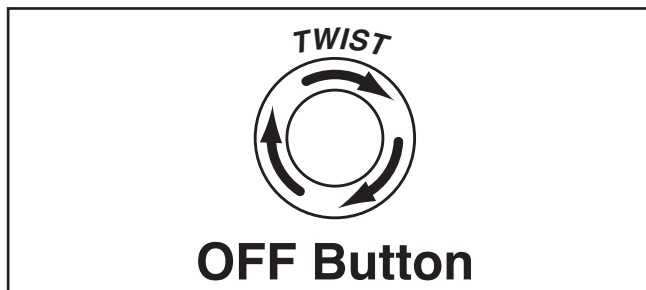

Figure 5. Resetting OFF button.
5. Twist OFF button clockwise so it pops out. When OFF button pops out, switch is reset and ready for operation (see **Figure 5**).